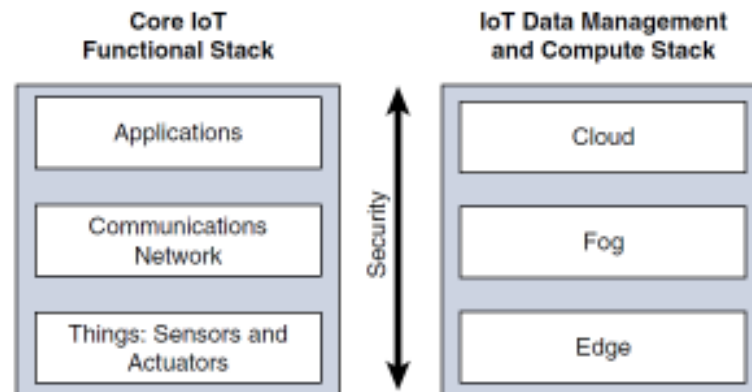

Figure 1.17. *Simplified IoT Architecture*
- The IoT model includes core layers **Figure 1.17**, including “*things,*” a *communications network,* and *applications.*